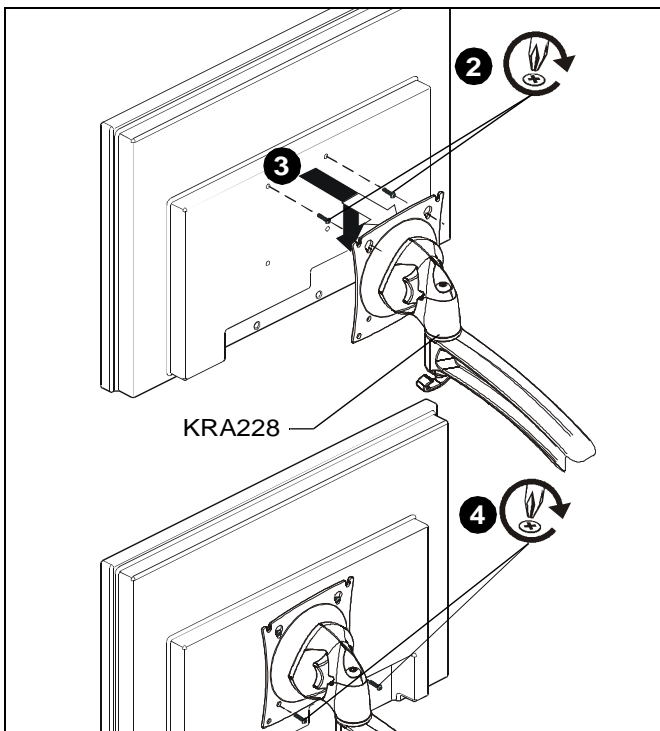

Figure 4
1. Ensure faceplate is able to swivel and tilt easily, yet still be tight enough to hold display in desired position. Adjust as required before proceeding following original mount installation instructions. (See Figure 4)
2. Carefully install two M4x14mm screws (B) into the *upper* mounting holes on the display. Thread screws completely into display, then back out three complete turns. (See Figure 4)
3. Pick up and align display so that screws (B) (installed in the previous step) fit into the mounting holes on the faceplate. Rotate the faceplate as required. Lower the display firmly into place. (See Figure 4)
4. Install two remaining M4x14mm Phillips screws (B) through the *lower* mounting holes in faceplate into the display. (See Figure 4)
5. Tighten all four screws (B). Do not overtighten!